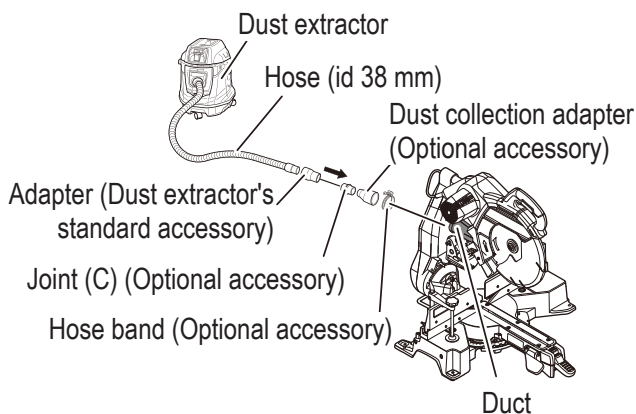

Fig. 33
16. Connecting the dust extractor (Sold separately) (**Fig. 33**)
Connection is done by pressing in the direction of the arrow. (**Fig. 33**)